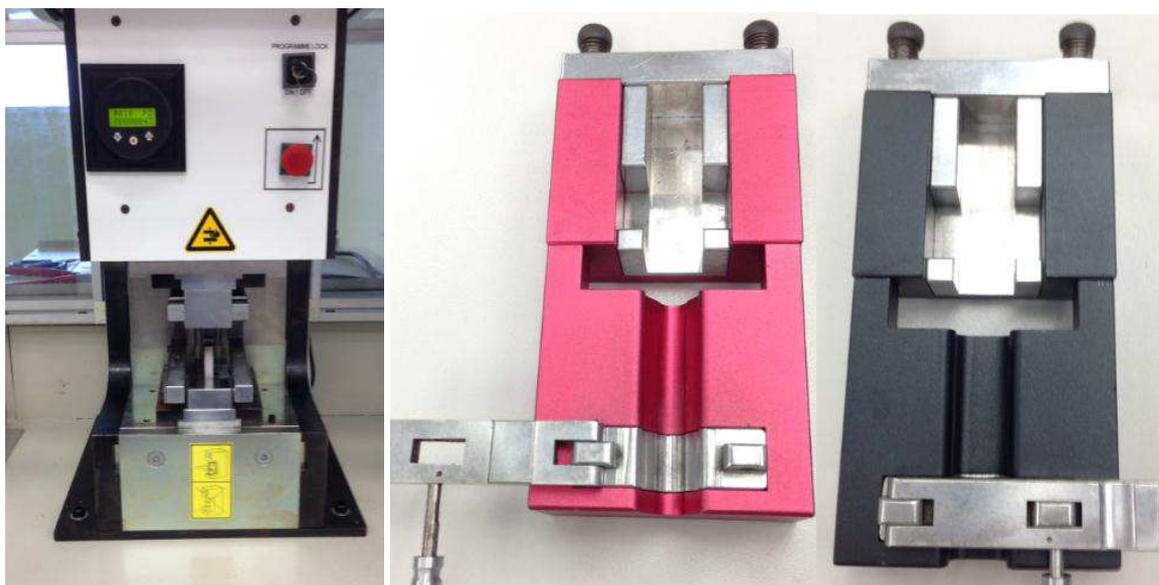

Figure 11.
5.2 Crimp Tool and Fixtures. Figure 11.